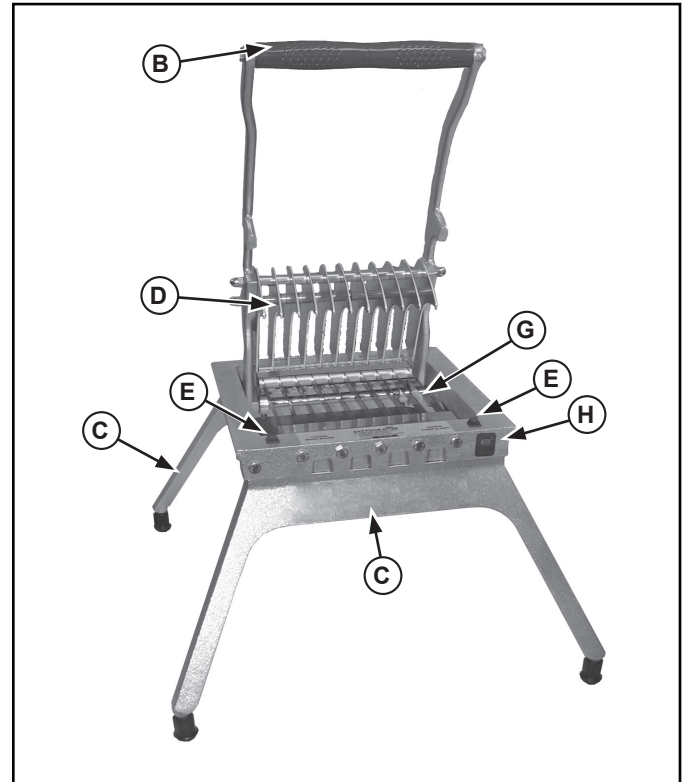

Figure 1. Features and Controls Lettuce King I.
2. Before each use, always check for proper blade alignment. Slowly set the pusher head (D) onto the blade assembly. See Figures 1 and 2. They should slide together with no obstructions. If there are obstructions, verify they are a matching set.
5. Lift the handle (B) and place the food on the blade assembly (G) with the flat side down. See Figures 1 and 2.
6. **Lettuce King I:** Remove hand from the blade assembly (G) area and place that hand on the leg (C). See Figure 1.
1. Raise the handle to put the highest position. See Figures 1 and 2.
5. The blade assembly (G) is best cleaned by forcing water under pressure through the blades from the unsharpened side. If necessary, use a nylon bristle cleaning brush to push food particles out from the unsharpened side of the blade assembly (G).
4. Verify that the bumpers (E) are installed. If missing, clean the surface and install new blade block shield(s). See Figure 1.
5. Remove the screws retaining the blade assembly (T). Carefully remove and dispose the blade assembly. See Exploded View and Parts List.
6. Examine the pusher fingers (J). If they are nicked or burred, smooth the rough edges with a small flat file. The spaces between the fingers must be uniform. Straighten any bent fingers.
7. Verify that blade shields (V) are installed on the blade assembly. See.
8. Place the blade assembly (G) into the frame (H) so the it is seated correctly and the sharp side up. See Figure 1.
9. Install the screws into the rear side of the blade assembly (G). Tighten until contact is made with the base assembly (H). Turn the screw until tight, do not exceed 1/2 turn or 40 in. lbs.
10. Place rubber washer between the base assembly (H) and the blade assembly (G). Insert the screws through the frame, and rubber washer into the blade assembly. Turn the screw until tight, do not exceed 1/2 turn or 40 in. lbs.
11. Slowly bring the pusher head (D) down to the blade assembly (G). If there is contact, the pusher head may need to be adjusted. To adjust, loosen the locking collar setscrews and position then adjust the pusher head fingers. Tighten the locking collar setscrews.